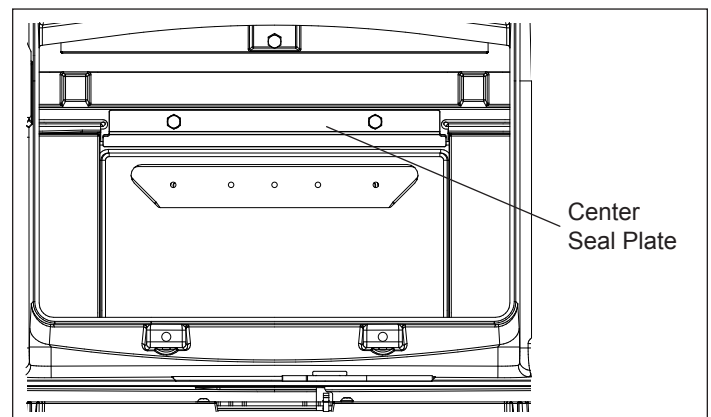

Figure 5
5. Remove (2) 1/4"-20 x 1/2" bolts and remove the center seal plate. Figure 5.